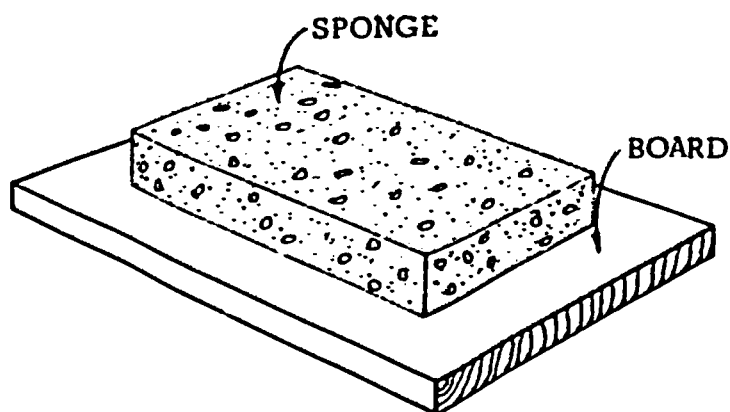

Fig. 69-3. Simulated Soil
3. Put a soft, dampened sponge in the approximate center of the board. See Fig. 69-3.